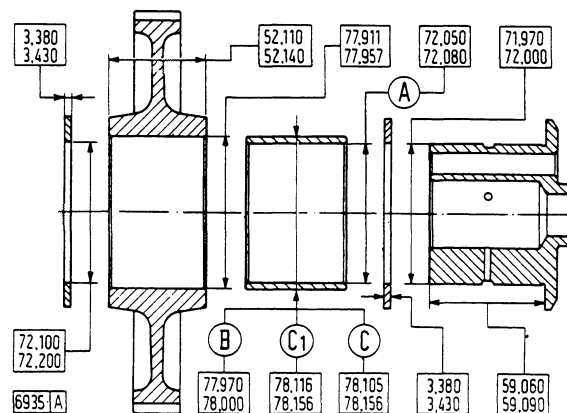

Fig. 15 - Idler gear and shaft dimensions.
- Dismantle idler gear components and check dimensions (fig. 15). Maximum wear clearance between bushing and shaft installed in gear is 0.20 mm or 0.007 in.